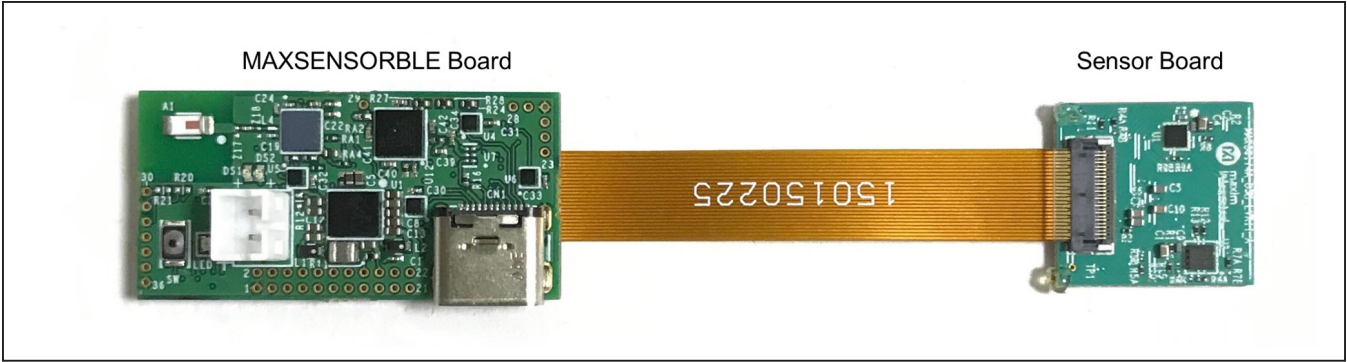

Figure 16. Connect Sensor Board to MAXSENSORBLE
- 5) Power off the MAXSENSORBLE board by holding down the Power Button for 12+ seconds and all the LEDs will be off. If sensor board is not connected to the MAXSENSORBLE, connect those two boards as shown in Figure 16.